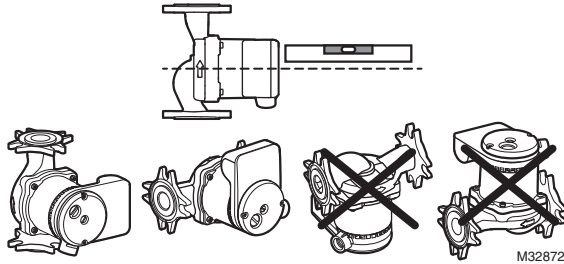

Fig. 5. Install pump so that the motor shaft is horizontal.
- An arrow on the motor housing indicates the direction of flow (see Fig. 5).